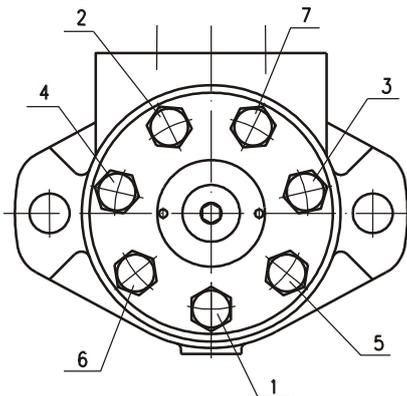

Fig.10
20. Install screws and washers in end cover. Tighten screws with  $3 \div 3,5$  daNm torque ( $4 \div 4,5$  daNm for "U" versions) using a S13 torque wrench in sequence as shown in Fig.10.